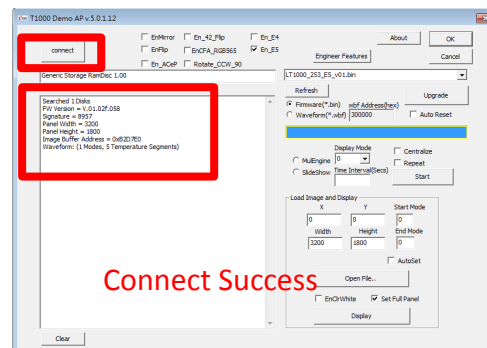

Figure 3.1
- (2) The PC is connected to the Luvia evaluation kit via a Micro-USB cable.
- (3) Execute the "T1000_Windows_AP.exe" software and click the "Connect" button to ensure that the software is successfully connected to the physical drive. (refer to Figure 3.1)